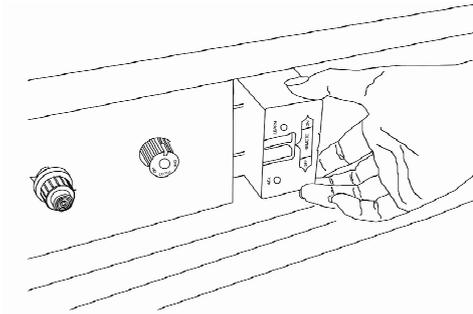

Figure 14
1. Take Control Box out from Control Panel. (See Figure 14)